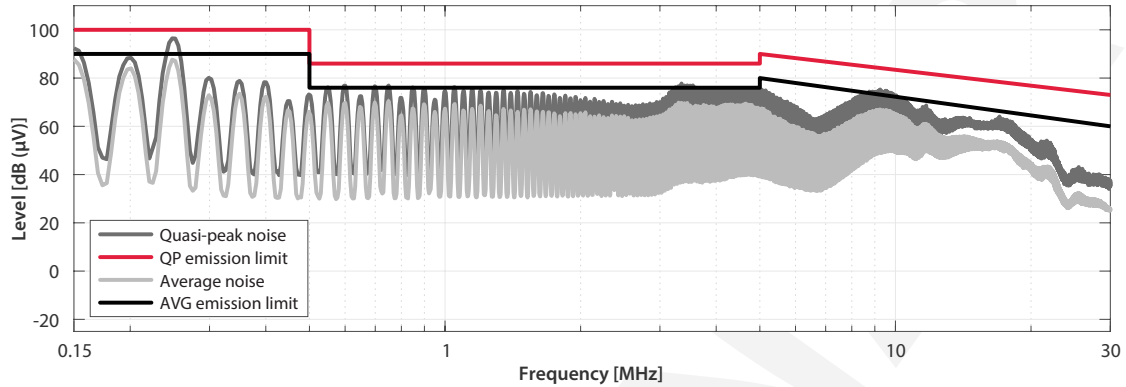

Fig. 8. Conducted emissions of the TPI in compliance with CISPR 11.
The conducted emission limits for 20-75 kVA devices from Group 1 Class A are shown in Fig. 8. They are expressed in [dB (μV)] and cover frequencies from 150 kHz to 30 MHz. Furthermore, the average (AVG) and quasi-peak (QP) noise is measured in accordance with CISPR 16-1. Fig. 8 shows the result of the EMC qualification test for the TPI.